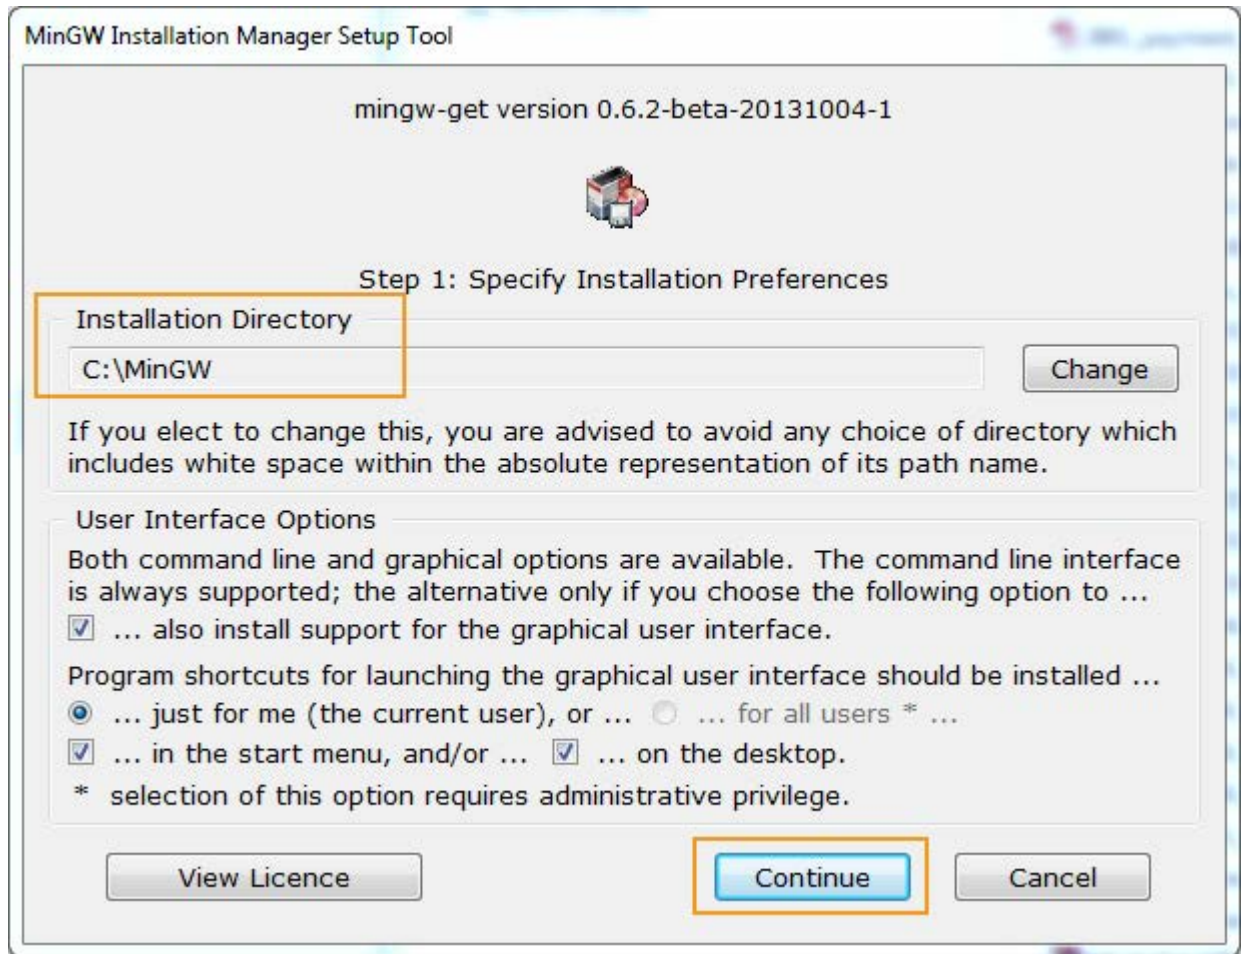

Figure 2. Keep default installation preferences
- 3) Follow the on screen instructions and keep the default settings, then click **Continue** to download the tool to C:\MinGW installation directory (see Figure 2).